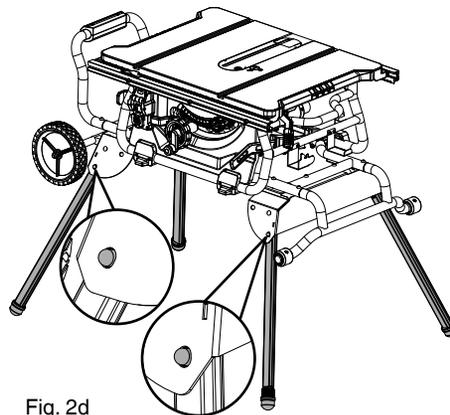

Fig. 2d
- Fig. 2d is the leg stand assembly in an open position.